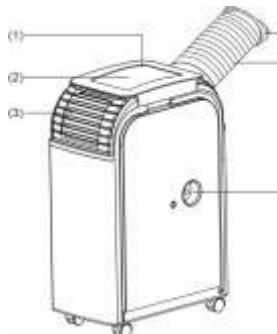

Fig. 3
**DEVICE DESCRIPTION (Fig. 3 and 4)**